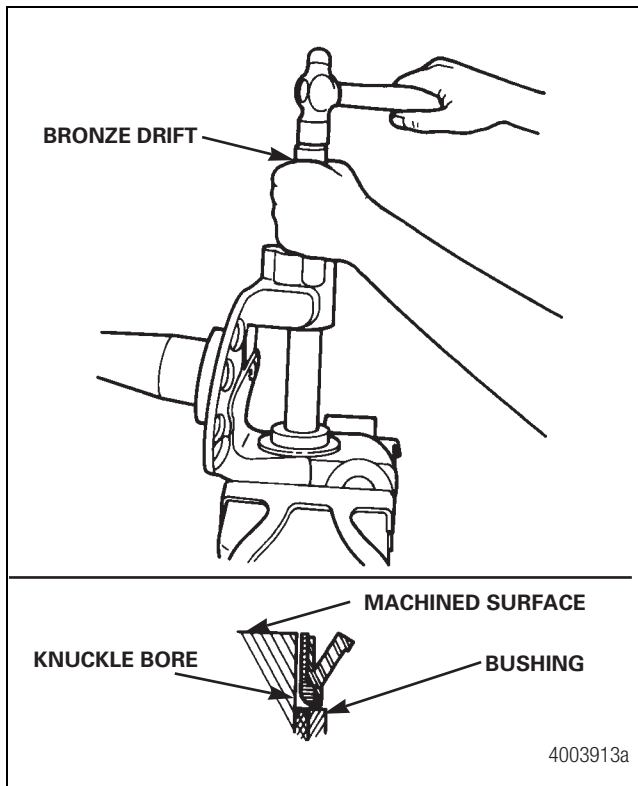

Figure 20
2. Place the seal into the bottom of the top knuckle bore. Verify that the open V-lip of the seal is away from the bushing to allow grease to purge. Figure 20.
3. Use a brass drift, hammer and correct size driver or socket to install the seal. Install the seal until the top of the seal is even with the machined surface of the knuckle. Figure 20.